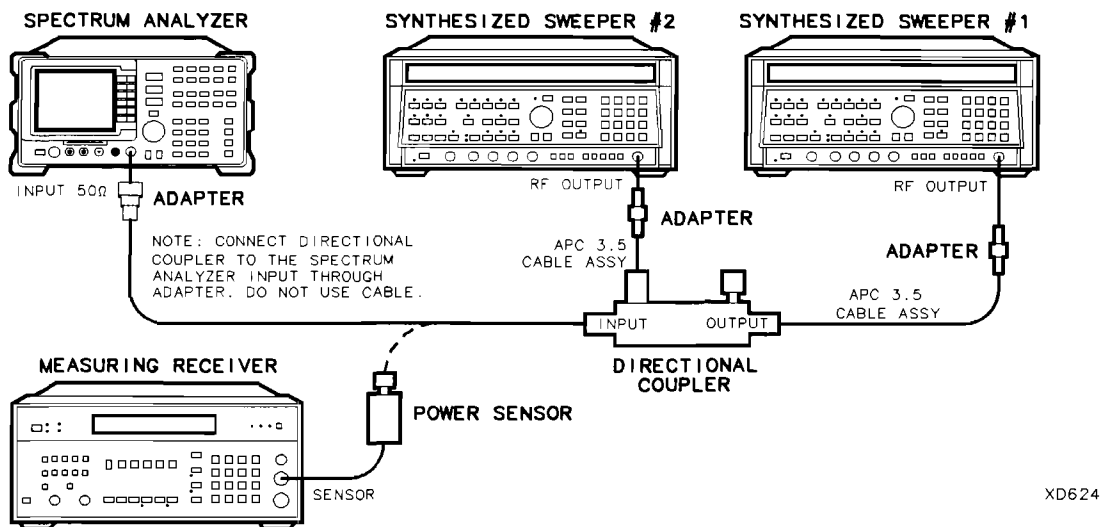

Figure 2-61. Gain Compression Test Setup
2. Connect the equipment as shown in Figure 2-61, with the output of the directional coupler connected to the power sensor.
28. Connect the equipment as shown in Figure 2-61.